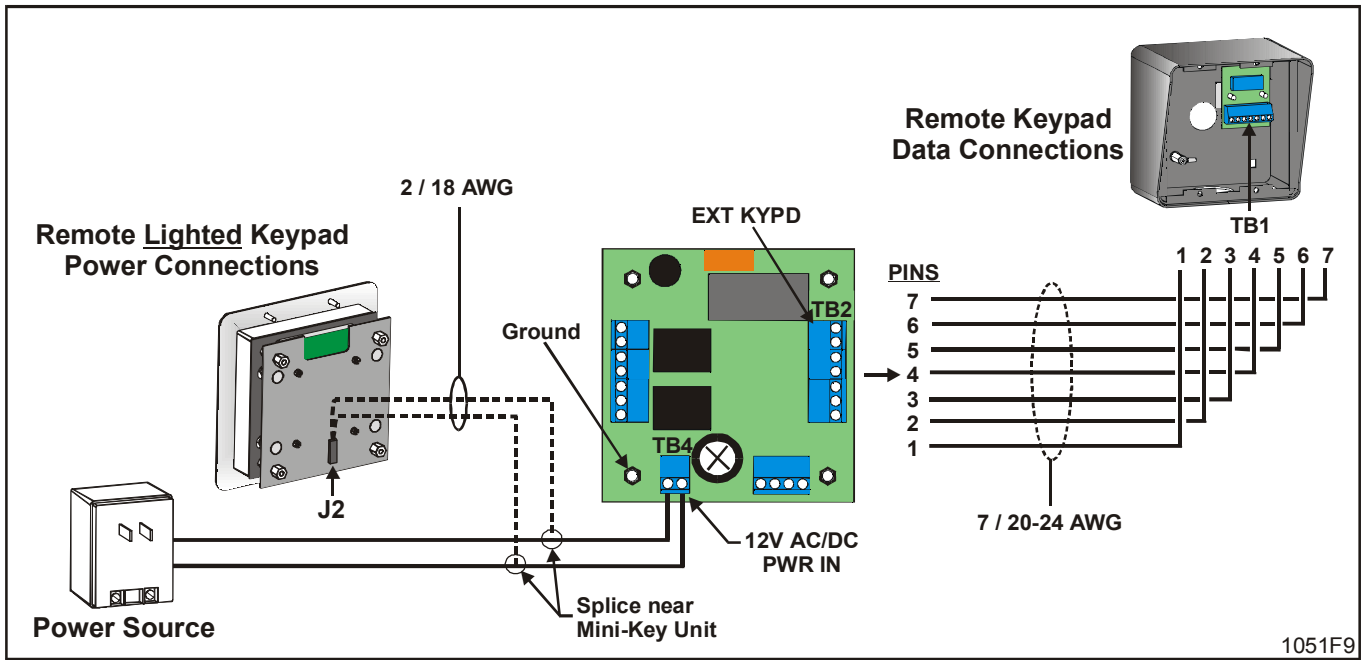

Figure 11: Installing a Remote Keypad
1. Install a remote keypad according to Figure 11.